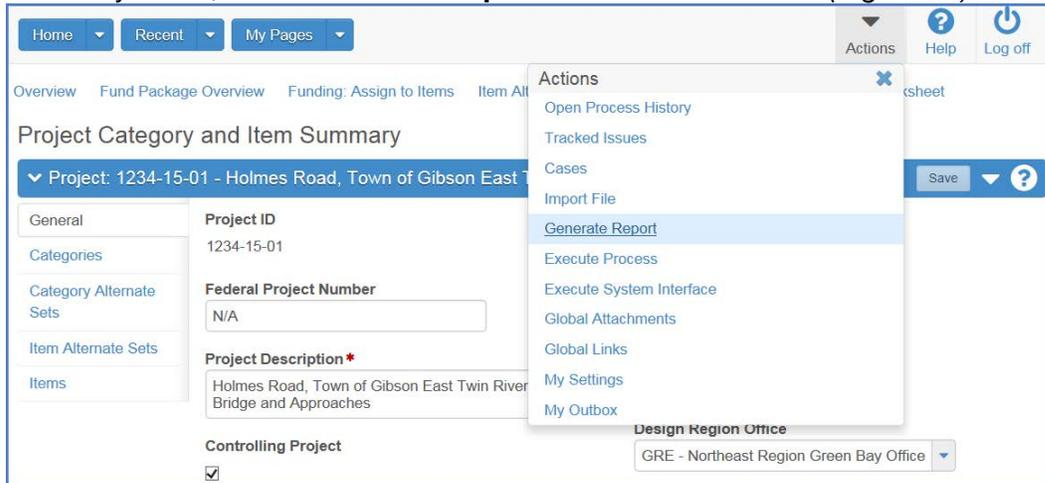

Figure 16
1. From any menu, select **Generate Report** under Global Actions (*Figure 16*).